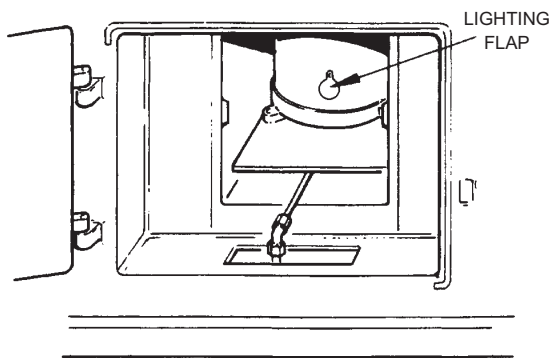

Fig.3 Oil Burner
5. Open burner outer door and lift off inner door. Allow about fifteen minutes for oil to enter burner. Then open the lighting flap Fig. 3 on burner outer shell position. Taking care not to lift or disturb the burner shell position. Insert a match which will light the wick.
The fire valve, located at the side of the appliance (See Fig. 3) can be reset once the unit has sensed the correct functional temperature.